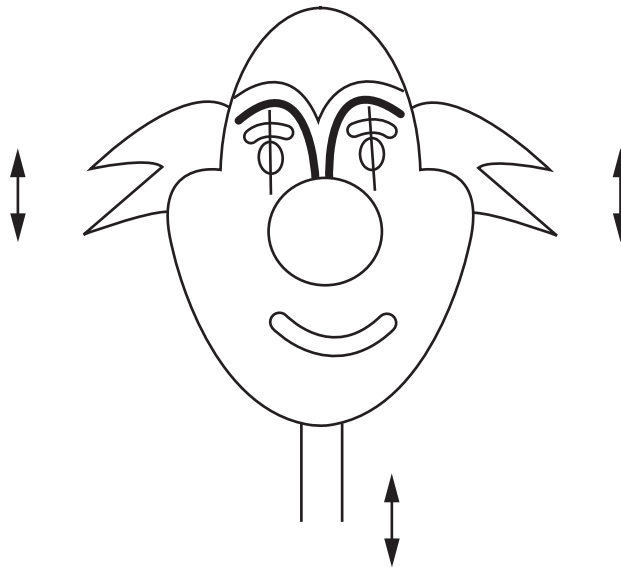

Fig. 7
- 2 (a) Fig. 7 shows a mechanical toy.